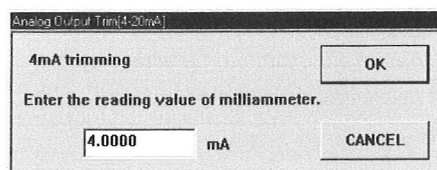

Fig.42
- ③ A window like the one shown in Fig. 42 appears. Enter the reading of the milliammeter which registers an output now and Click on "OK" button.